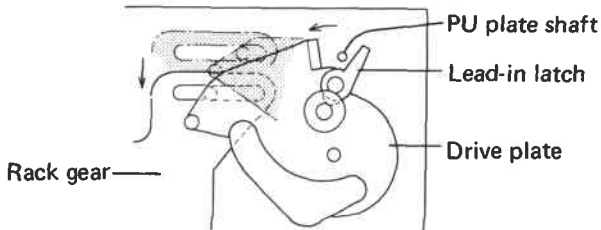

Fig. 5-12 Tone arm attachment
- 12. The tonearm section is assembled prior to assembling to the slide base. Also, attach the PU plate shaft positioned between the drive plate and the lead-in latch (slide the rack gear slightly forward and hold the lead-in latch in an open position during assembly. After assembly, return the rack to its back position) (Figure 5-12).